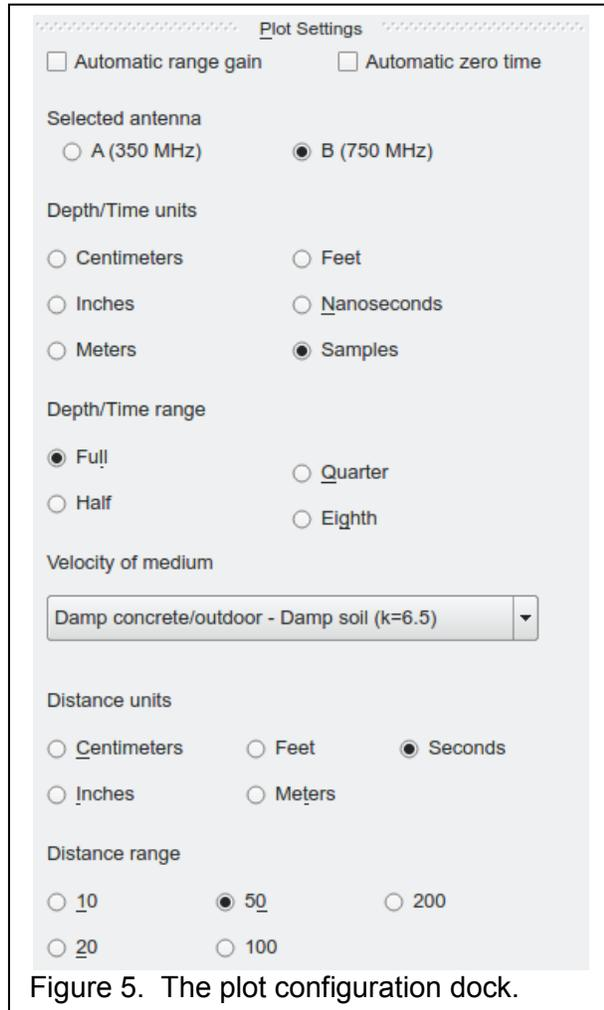

Figure 5. The plot configuration dock.
6. The GPR4 Record tab has standard A-scan and B-scan plots that are customary for most GPR systems. The plot parameters can be changed by pressing the Plot parameters button  (see Figure 5). For most users, the default settings will be sufficient. For those interested, the dialog functions are described below.